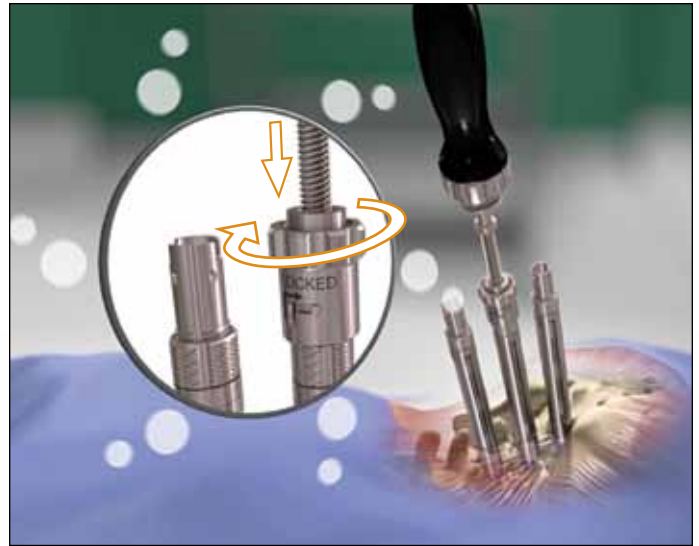

FIG. 29
- To secure the locking cap of the Internal Rod Reducer onto the Screw Extension, push down and rotate the cap clockwise to the “lock” position. (FIG. 29)